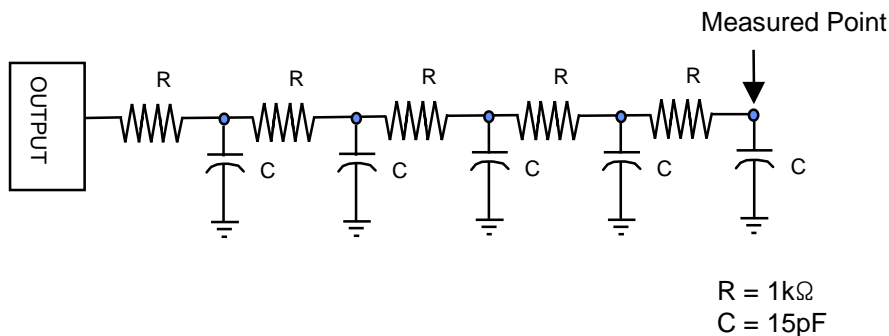

Fig 2. Load conditions of analog output pin.
9. The load of the analog output terminal is the value shown in Fig 2.